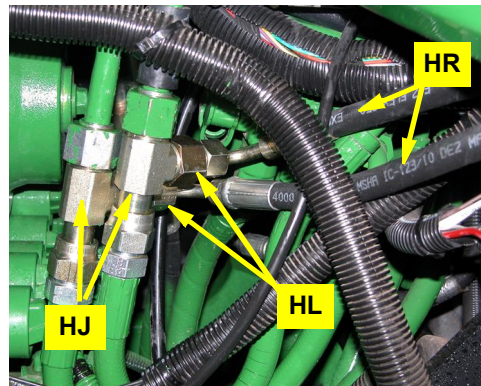

Figure 4c: Steering output hoses connected to run-tee adapters
- c. Connect the steering output hoses **HR** to the adapters **HL** on the run-tees **HJ** (Figure 4c).